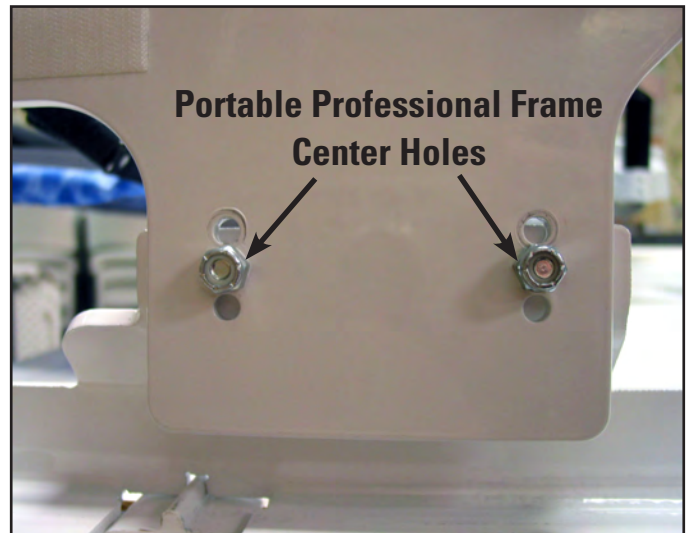

Figure 3.31
1. The Portable Professional Frame (*Pro-Frame*) side arms have three sets of height-adjustment holes. The ideal setting for the HQ Pro-Stitcher is the middle set of holes (**Figure 3.31**). This should allow the quilting machine arm to pass freely under the idler bar while keeping the quilt as close as possible to the arm. Use the 7/16" wrench to adjust the height if necessary. The ideal height allows just the tip of a finger between the idler pole and the machine.